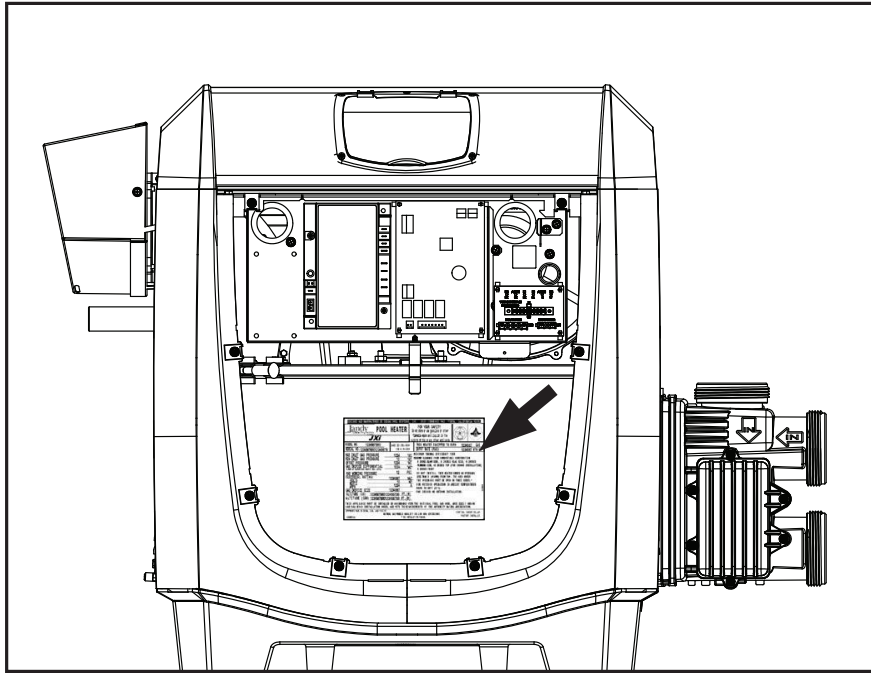

Figure 1. Rating Plate Located on Outside of Combustion Chamber
The rating plate sticker is factory-applied to the heater on the outside of the combustion chamber (see Figure 1). It is critical that the rating plate matches the gas and air orifices installed in the heater and accurately reflects the BTU size and fuel type. If the heater is being converted, the new rating plate (included in this kit) **MUST** be placed on the combustion chamber **over the original rating plate with the heater model number and serial number visible** (see Figure 2).
1. Remove eight (8) screws to take off the heater front panel.
2. Confirm the fuel type for the heater you are converting by checking the rating plate on the front of the combustion chamber (Figure 1).